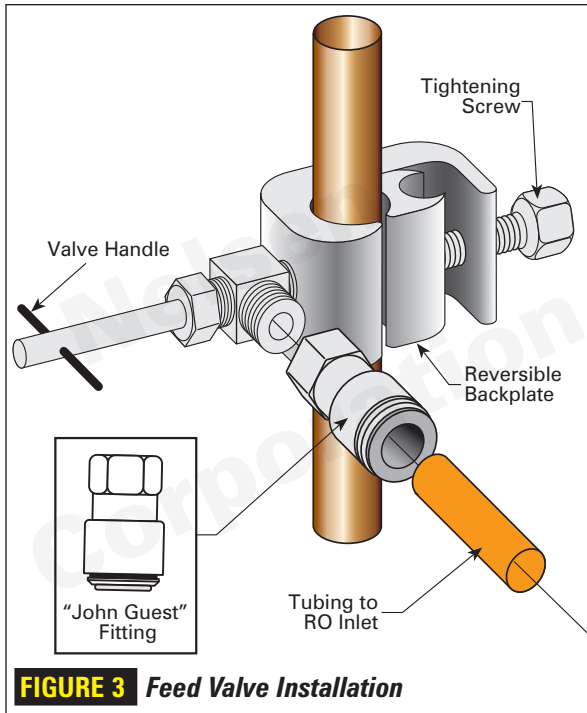

FIGURE 3 Feed Valve Installation
- 3) Assemble saddle tapping valve on copper tubing. See Figure 3.
- 4) Assemble saddle tapping valve on copper tubing. See Figure 3.